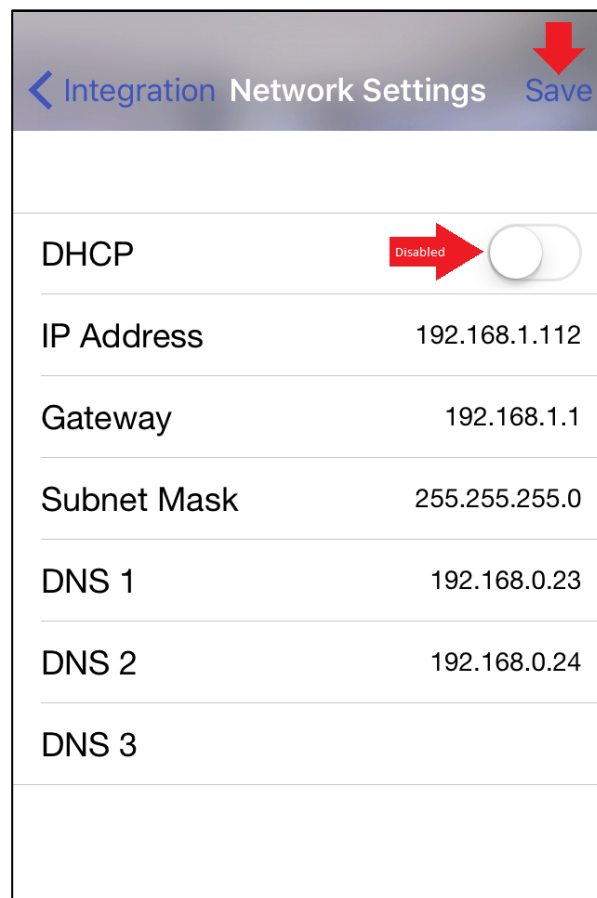

Figure 6 - Network Properties
6. Inside of "Network Settings", disable DHCP to configure the Caséta Bridge as static (Figure 6). Record the IP Address and keep it nearby for this is the IP Address used in Compass Control. Select "Save" on the top right to configure the bridge. A pop up will ask to confirm the changes. Select "I Understand" and the menu will return to the "Integration" tab.